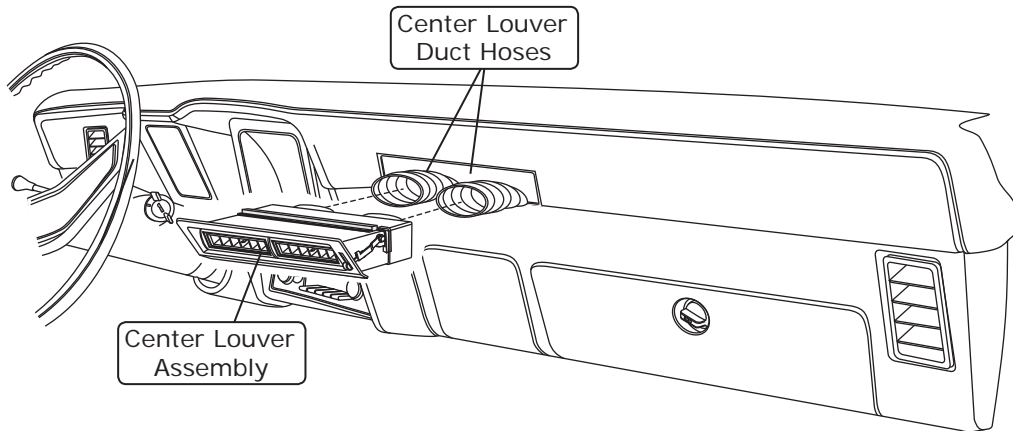

Figure 1
1. Attach (2) 25" lengths of 2 1/2" duct hose to the center louver as shown in Figure 1, below.